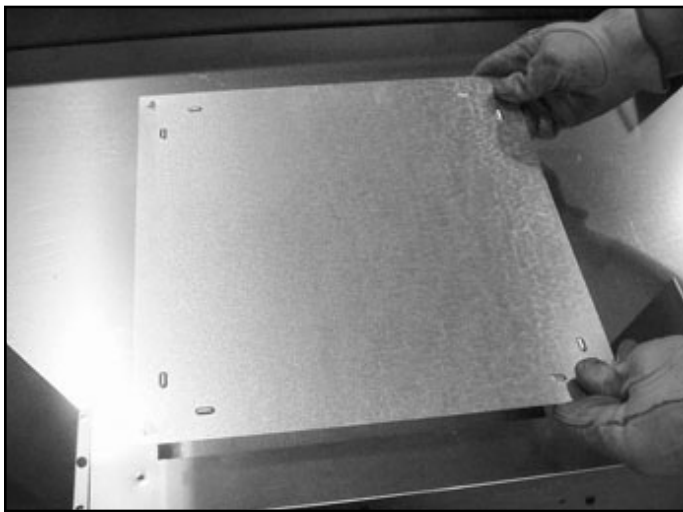

**Figure 9.16 Cover Plate-Replace**
- Locate heat shield cover plate removed in the first step. Place the heat shield cover plate on top of heat shield. Replace four screws to hold this plate in place. See Figure 9.16.